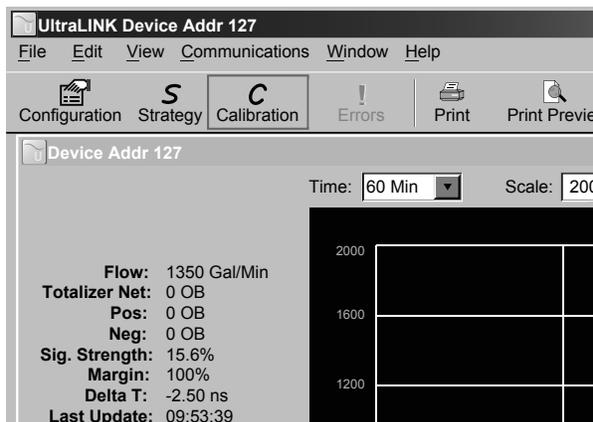

FIGURE 2.7 - DATA DISPLAY SCREEN
- 2) From the Tool Bar select **Calibration**. See **Figure 2.7**.